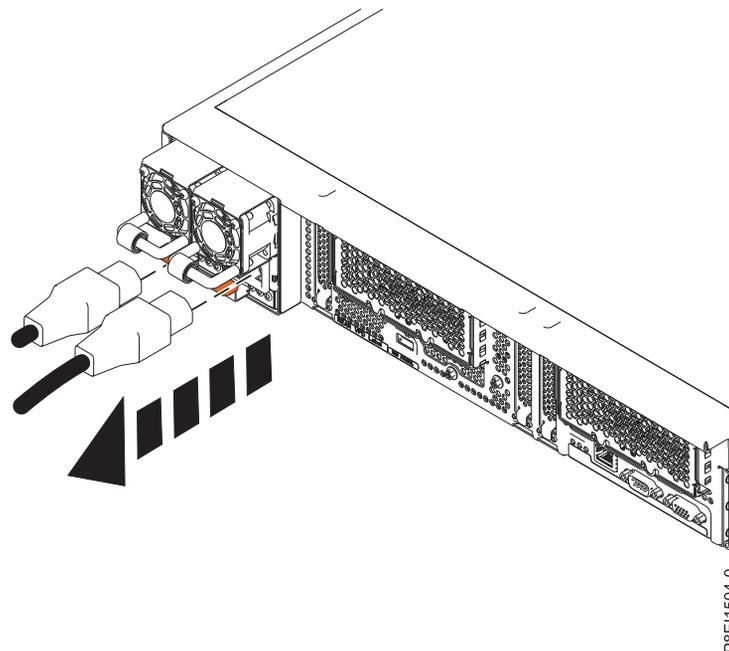

Figure 70. Disconnecting the power cord from the power supply
- a. Label the power cord, and then unstrap the hook-and-loop fastener to release the power cord from the power supply handle. Refer to Figure 70.